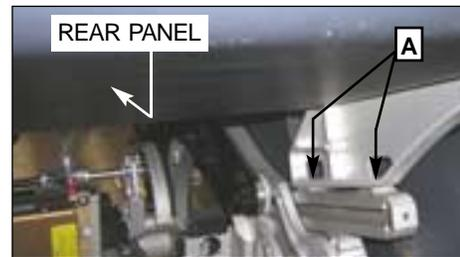

FIG. 302A:
- (4) Remove rear panel by means of two screws (A) from both sides (see fig. 302A).